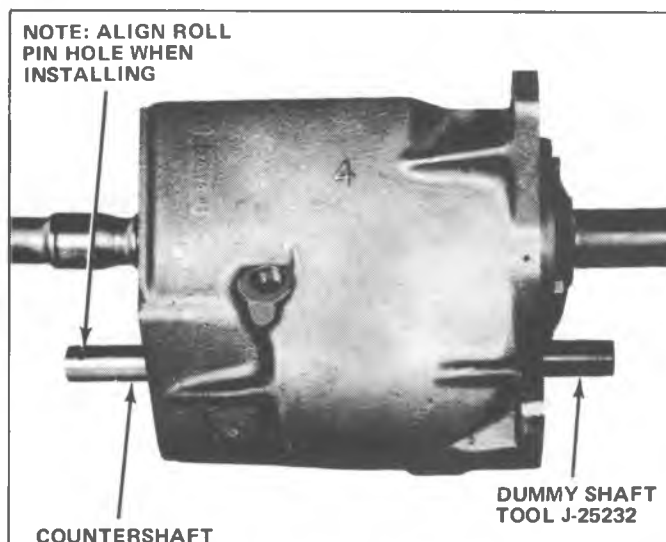

Fig. 5R-Removing Countershaft
7. Insert dummy shaft tool J-25232 into bore at front of case, tap lightly on tool to push countershaft out rear of case (fig. 5R).
7. Align bore in countergear with countershaft and front thrust washer, then start countershaft into countergear. Before countershaft is completely installed make sure that roll pin hole in countershaft is aligned with hole in case. When holes are aligned, tap countershaft into place, remove tool J-25232 (fig. 5R).